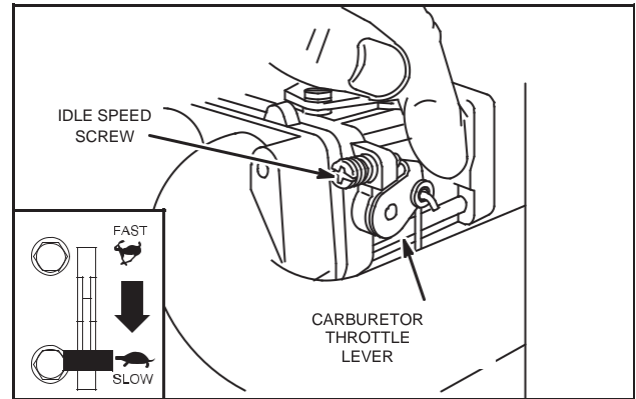

Fig. 26 – Adjusting Idle Speed
2. Hold throttle lever against idle speed adjustment screw and adjust idle speed to 1200 RPM, Fig. 26. Release throttle lever.